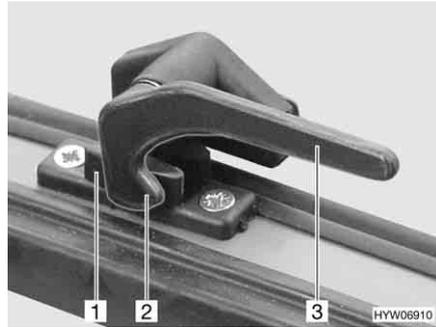

Fig. 59 Catch lever in "closed" position
- Turn the catch lever (Fig. 59,3) a quarter turn towards the centre of the window.
- Turn the catch lever (Fig. 59,3) a quarter turn towards the window frame. The locking catch (Fig. 59,2) is located on the inside of the window catch (Fig. 59,1).
- Firmly closed (Fig. 59).